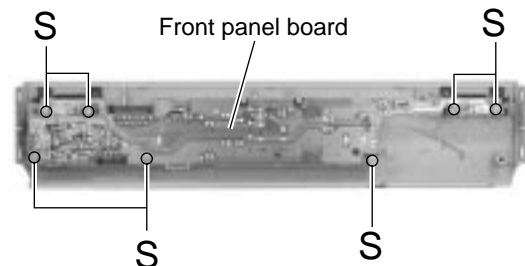

Fig.28
■ Removing the front panel board (See Fig.28)